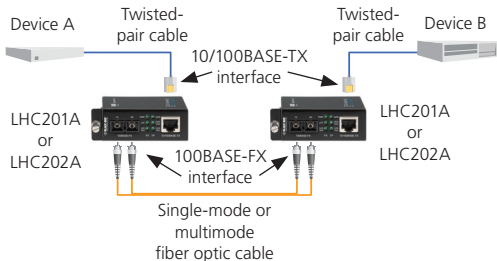

Figure 3-1. Application using two media converters.
1. Place two converters back to back between the end devices as shown in Figure 3-1.